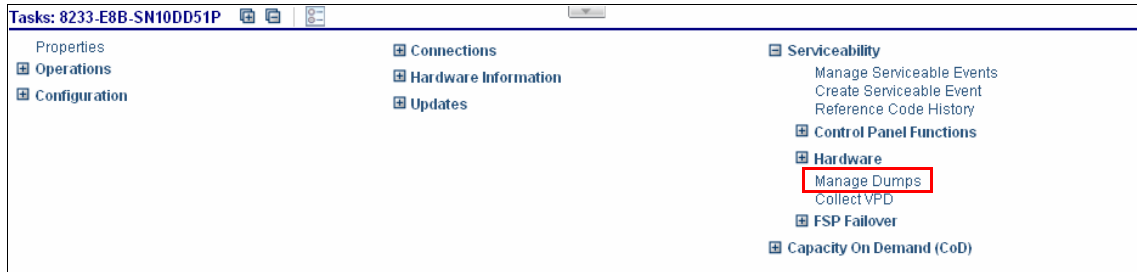

Figure 6-17 Service Management: Initiate dump from the server
1. Select **Systems Management** → **Servers** and then select the name of the server. On the lower panel, select **Serviceability** → **Hardware** → **Manage Dumps** (Figure 6-17).